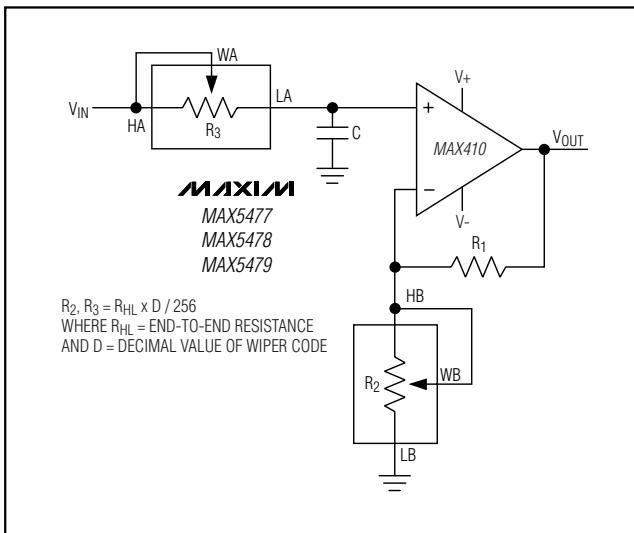

Figure 11. Programmable Filter
Figure 11 shows the MAX5477/MAX5478/MAX5479 in a 1st-order programmable application filter. Adjust the gain of the filter with R_2 , and set the cutoff frequency with R_3 . Use the following equations to calculate the gain (A) and the -3dB cutoff frequency (f_C):